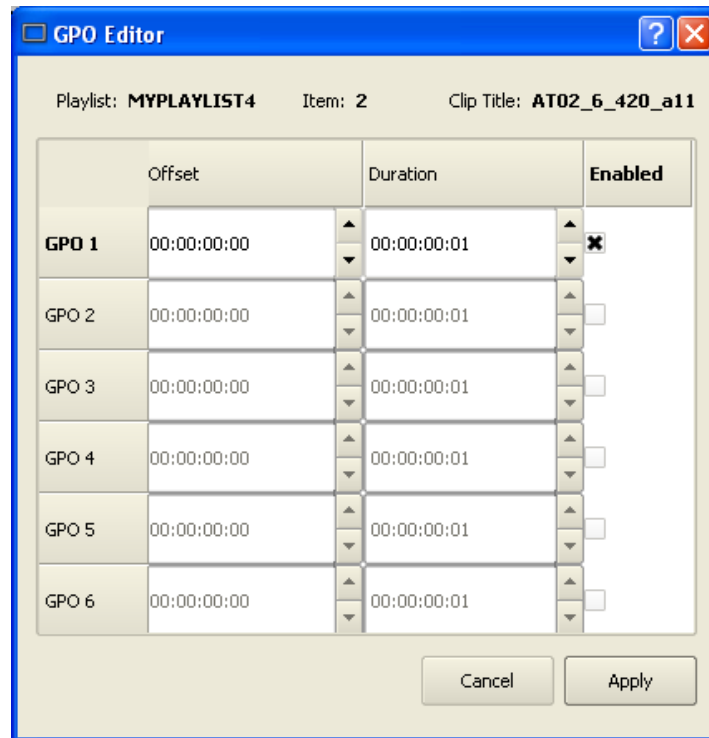

Figure 27 - GPO Editor
- C. Place the cursor over a Clip in a Playlist. Right click on the clip. Select **EDIT GPO**. The GPO Editor (Figure 27) appears.